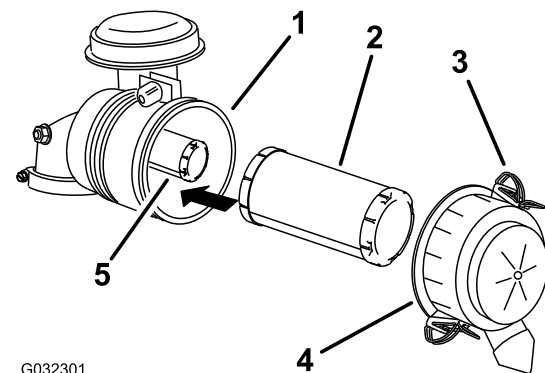

Figure 30
- Release the latches on the air cleaner and pull the air cleaner cover off the air-cleaner body (see Figure 30).
2. If you are replacing the safety filter, carefully slide it into the filter body (see Figure 30).